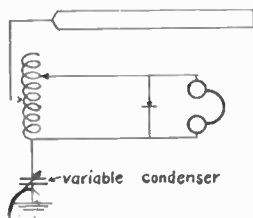

Fig. 58. — Conductively Coupled Receiver (Called Double Slide Turner).
2. Conductively coupled receiver (Figures 58 and 59).